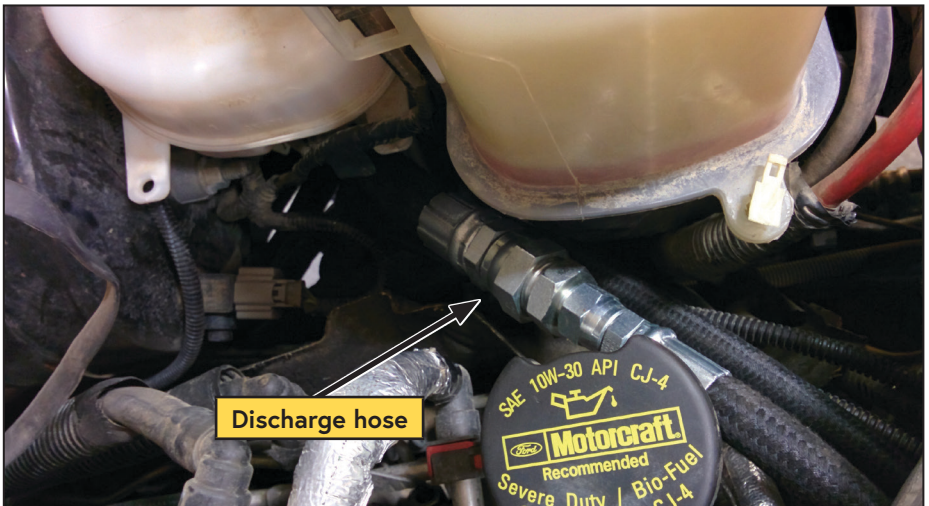

Figure 26 — Discharge hose assembly routing
- The discharge hose assembly should rest naturally near the coolant reservoir on the driver side of the vehicle (Figure 26).